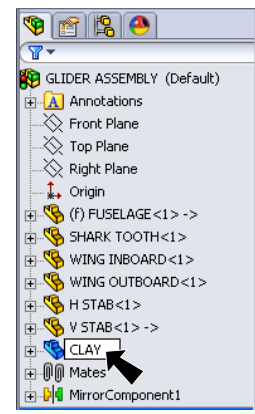

Fig. 28
Step 3. Key-in **Clay** in the Feature Manager and press **ENTER**, Fig. 28.